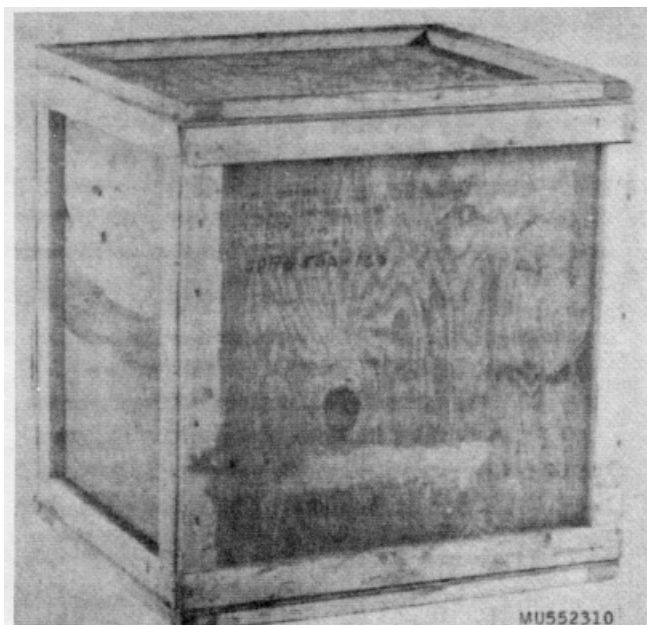
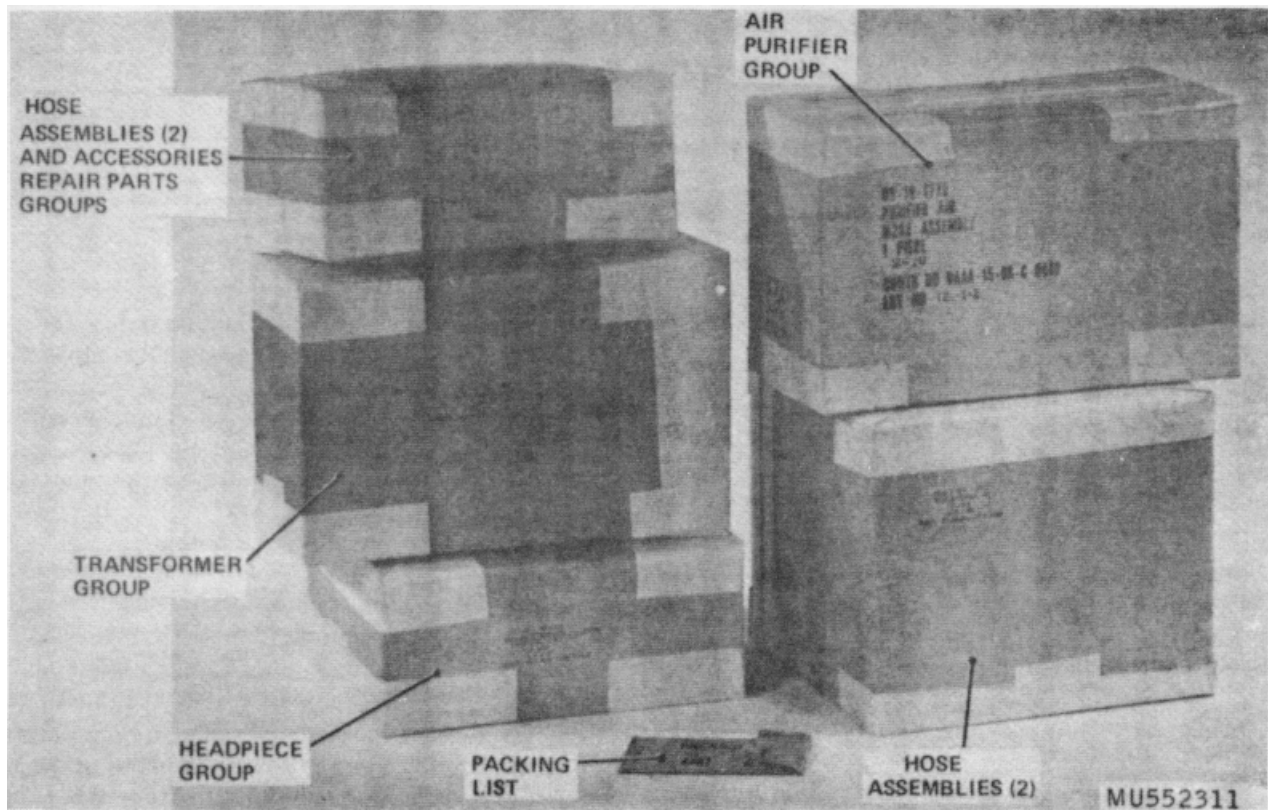

Figure 4-1. Filter unit, crated.
Figure 4-2. Filter unit, partially unpacked.
a. *General.* The filter unit is received by organizational maintenance personnel packed in a wood box (fig. 4-1). Open the wood box by cutting the metal straps and removing the lid, taking care not to damage the contents. Unpack the filter unit from the box. Check the packing list against the contents of the box to insure that the filter unit is complete (fig. 4-2). Retain the box with packing for future storage of filter unit or for moving filter unit to another location.